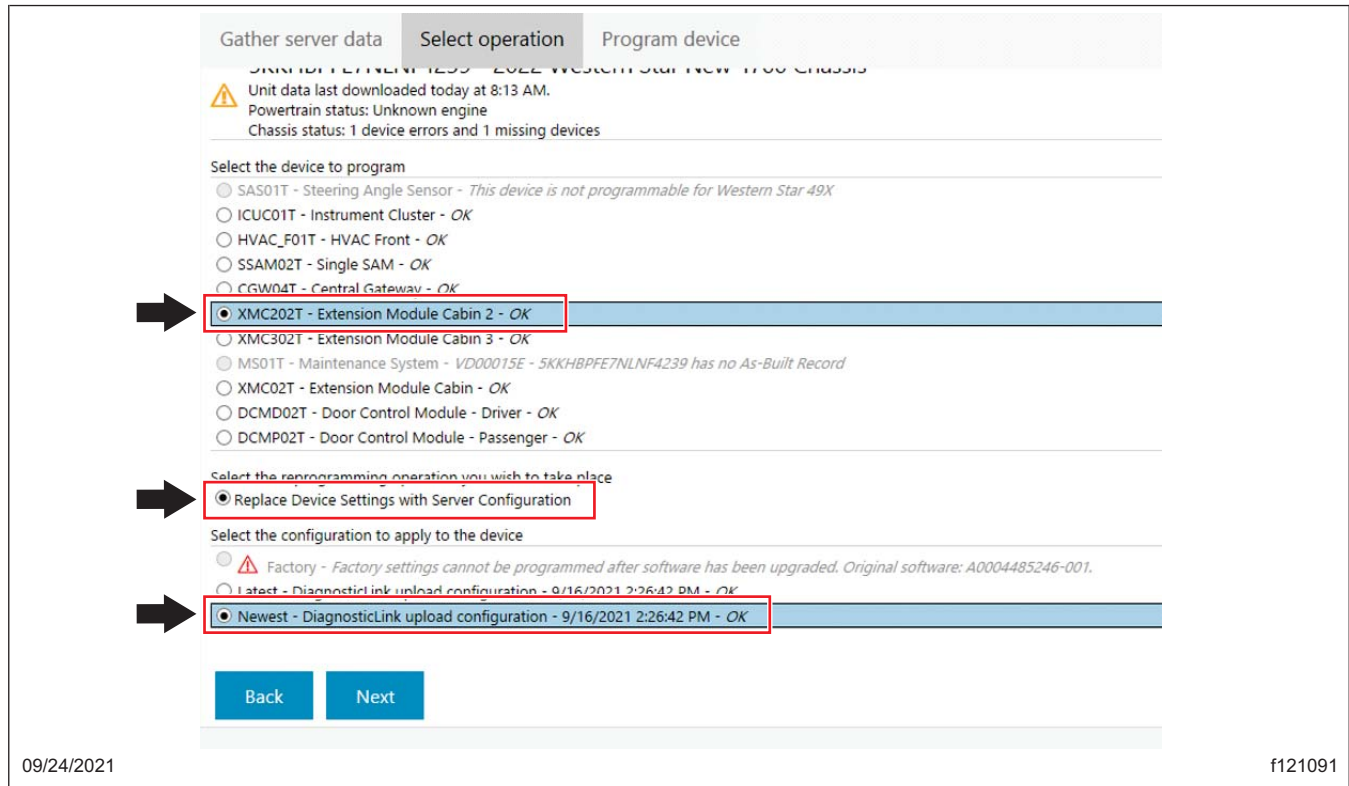

Fig. 5, Programming an ECU
- Select the XMC ECU to program. For example, Fig. 5 shows XMC2 (XMC202T) selected.
- Select 'Replace Device Settings with Server Configuration,' and 'Newest,' then select the 'Next' button. See Fig. 5.